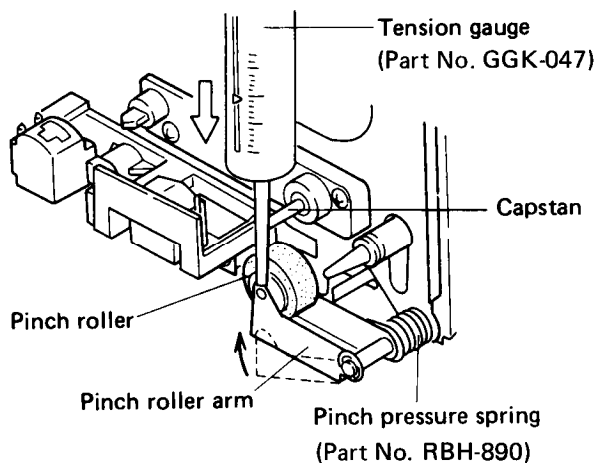

Fig. 12-1 Pinch roller pressure adjustment
2. Gently push against the pinch roller arm with a tension gauge (service part no. GGK-047) and separate the pinch roller slightly from the capstan. (See Fig. 12-1).